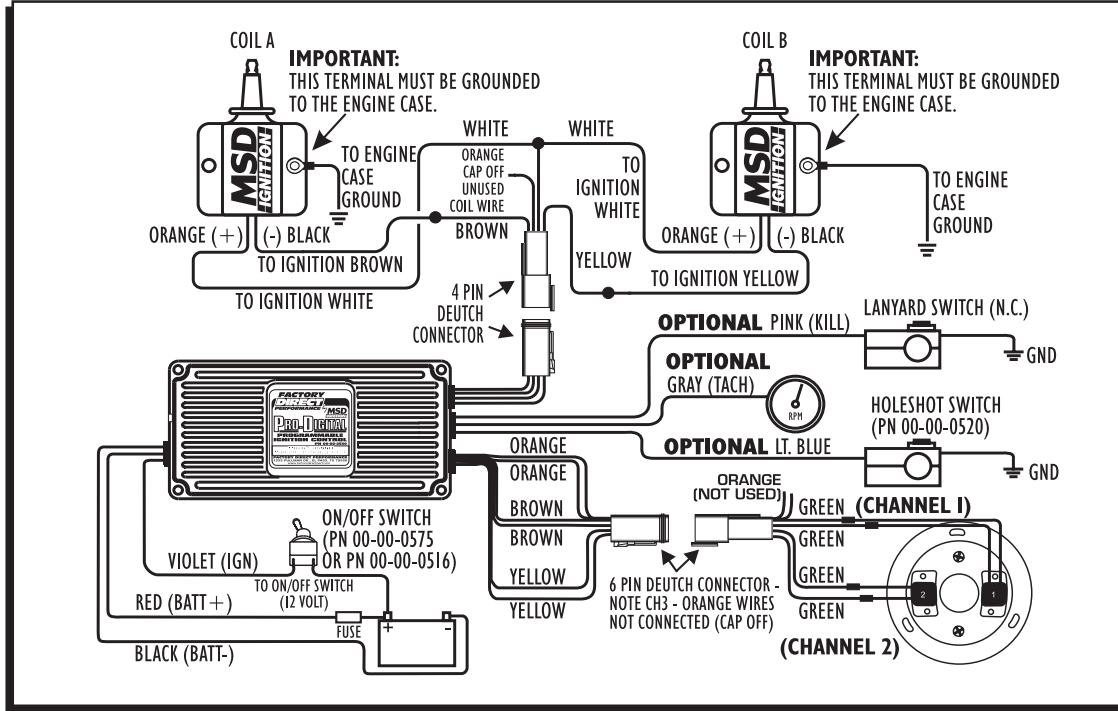

Figure 2 Universal Two Cylinder wiring application.
1. Figures 2 and 3 shows the complete wiring diagram for the Multi-Channel Ignition unit for universal applications. Connect the VIOLET wire to one wire of an On/Off switch (not supplied). Then connect the other wire of the switch to the positive (+) terminal of the battery or starter solenoid.
The tach signal from the Ignition is a 12 volt square wave signal so many types of tachometers can be used with the ignition. Some of the more commonly used tachometers are the Jetmeter, Water Strike Marine, Optak, J.R. Electronics, VDO, Faria, and Autometer. Connect the tachometer trigger wire to the Ignition GRAY wire as shown in Figures 2 and 3.